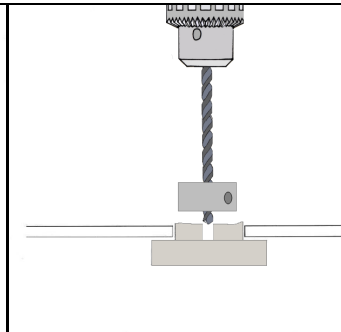

Fig.18
- Drill the center of the pin with a small 1/8" drill equipped with a drill stop to avoid drilling more than 1/8" deep in the condenser and hitting the core tubes (Fig.18).